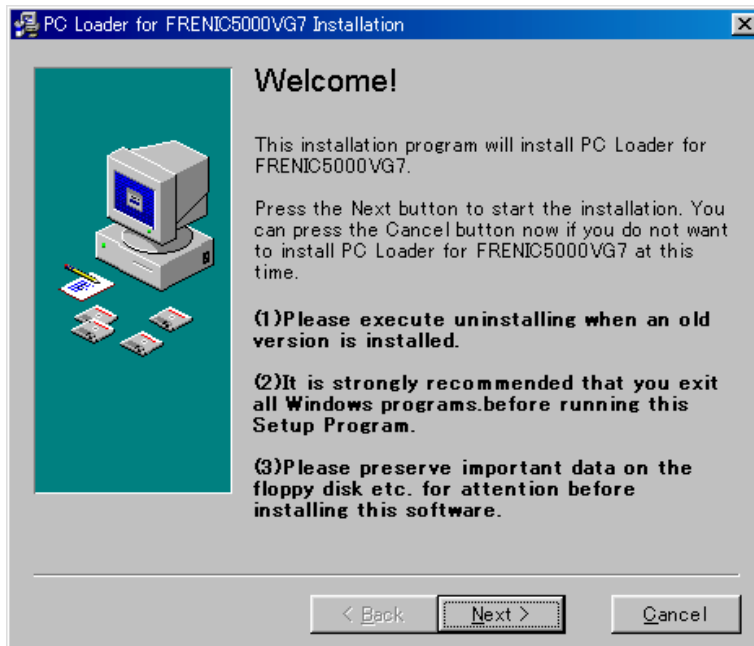

Figure 3 Welcome Message
Before running this installation program, be sure to exit all application programs. (because installation of PC loader requires to restart the computer, which will delete the application data). When the CD-ROM is started, a welcome message (Figure 3) automatically appears. Read the message carefully and click “Next (N)”.
Note 1: When the welcome message in Figure 3 does not appear after setting CD-ROM and waiting for a while, double click “my computer”, and double click CD-ROM. Then, double click “AutoRun.exe”.